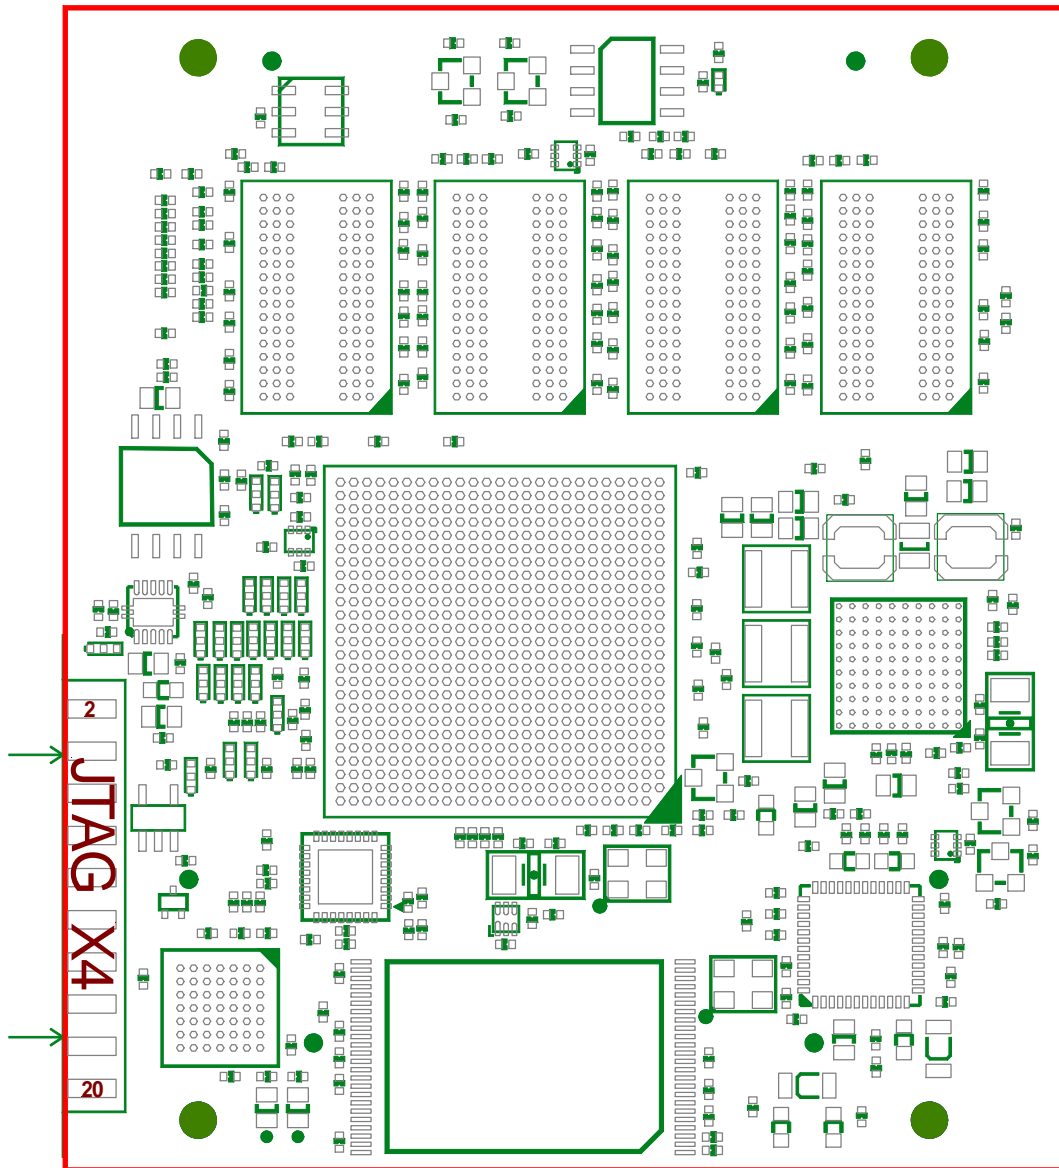
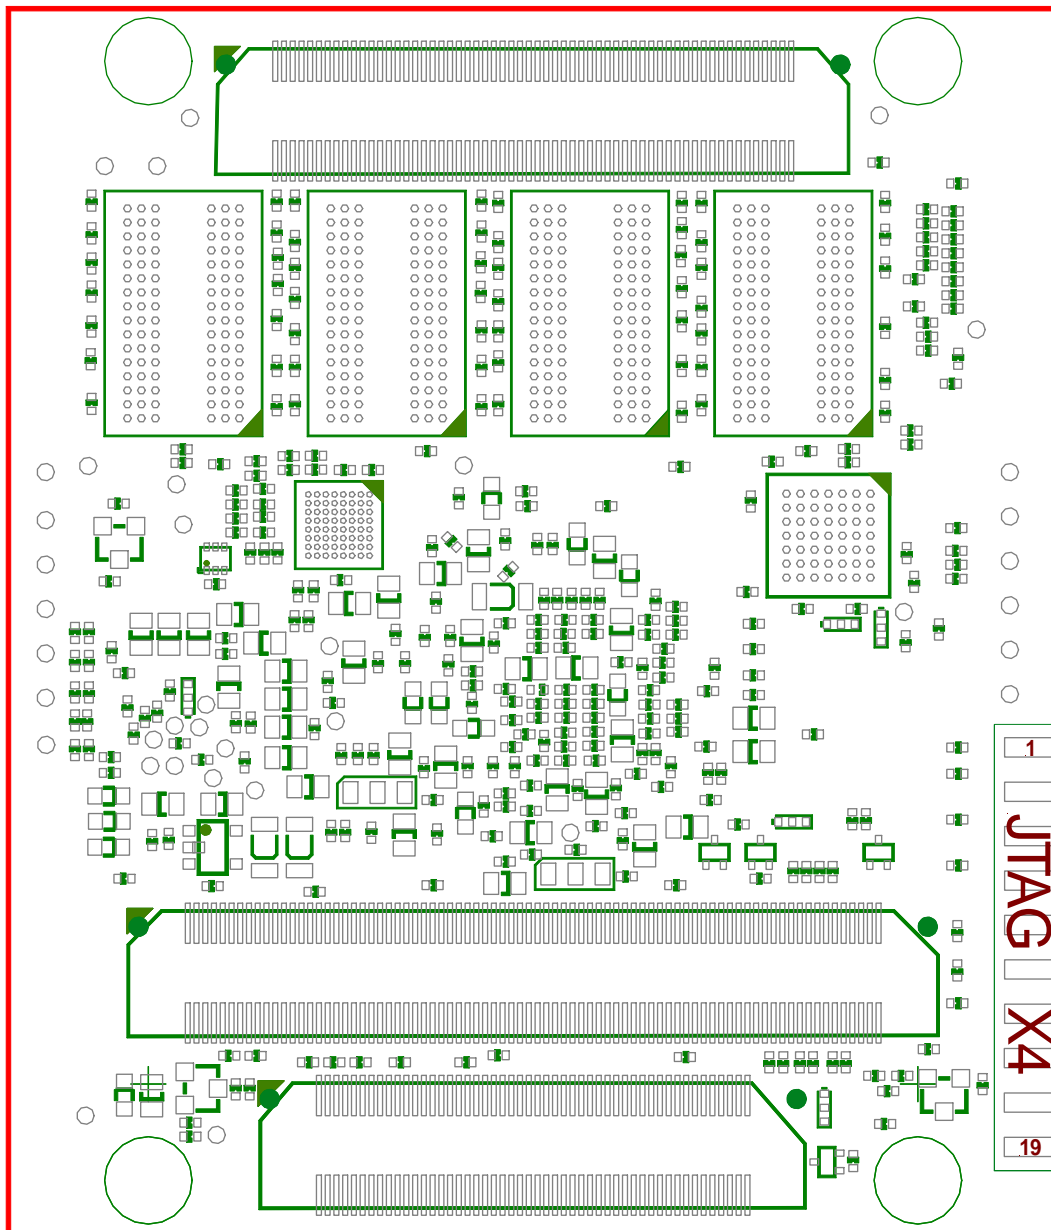

Figure 9: JTAG Interface at X4 (top view)
Figure 10: JTAG Interface at X4 (bottom view)
*Figure 9* and *Figure 10* show the position of the debug interface (JTAG connector X4) on the phyFLEX-i.MX 6 module.